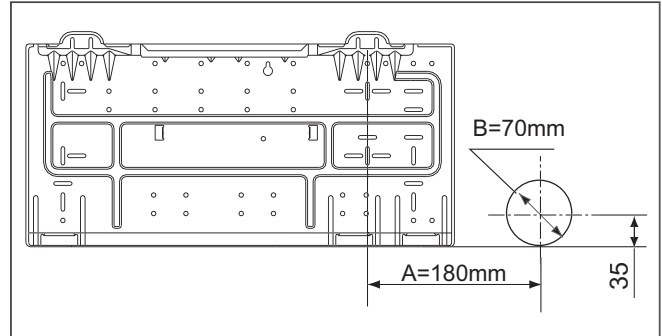

Fig. 9.6 Dimensions of the hole for the piping.
- Case A: laying the rear piping. In the event of laying the rear piping, a suitable hole must be made (see Figure 9.6).
- Drill a hole in accordance with the diameter indicated in Figure 9.6, slightly descending to the outside.